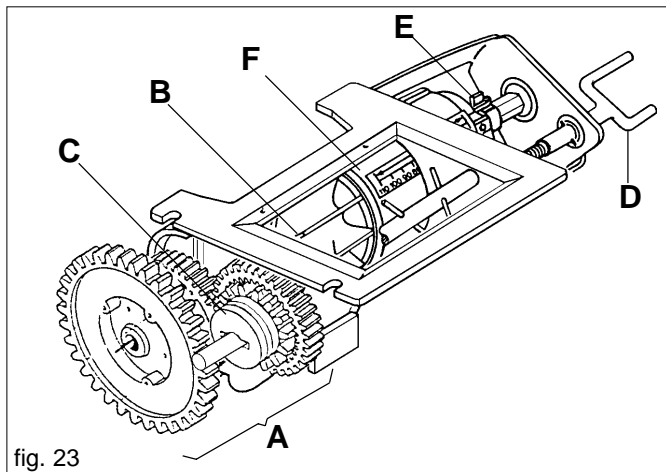
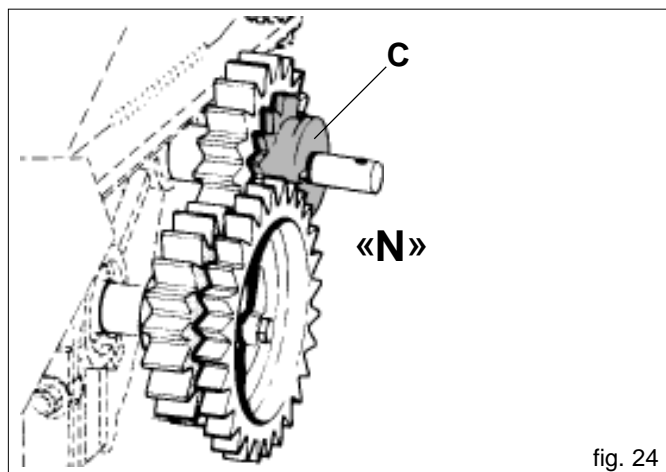
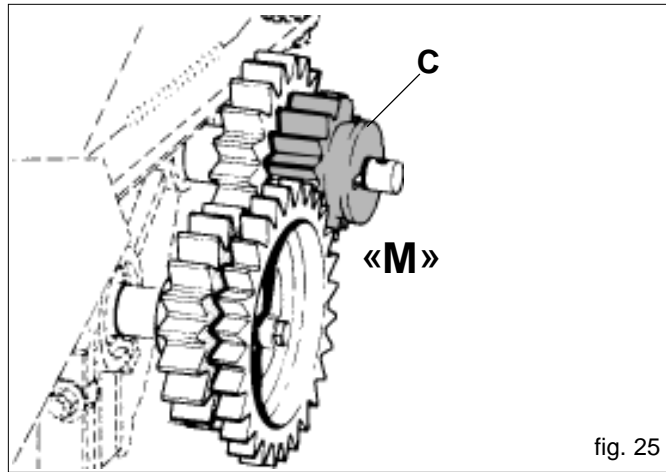
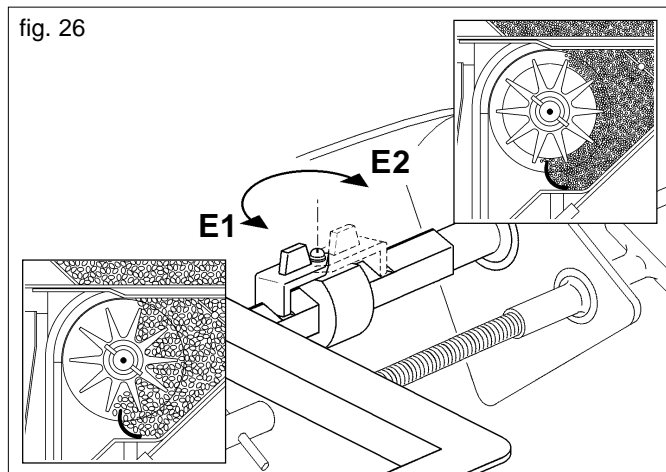

fig. 23
fig. 24
fig. 25
fig. 26
The doser (Fig.23) the most important part for seeder operation, is located underneath the seed hopper. Motive power is transmitted to it by the drive wheel through gears (with ratios proportional to the width of the work to be carried out) and chains. Thanks to a gearbox (A Fig. 23) it allows the distributor roller (B) to operate with two gear ratios, by changing the position of the red toothed wheel (C Fig. 24, 25). In position «N» (Fig. 24), the gear ratio is 1:1, as imposed by the pair of toothed wheels Z19; when the wheel (C) is shifted to the «M» (Fig. 25) position, the distributor wheel halves the number of revolutions, as the drive is then composed of the red drive wheel Z14 and the drawn wheel Z28. When a dosing test, as described in chapter 3.4.2, is performed, it may be observed that the quantity of product distributed is halved (see Table 5) compared to the test using ratio 1:1. The position «M» of the toothed wheel (C) is necessary for the distribution of small seeds and quantities.
The locking spring (E Fig. 23) enables the opening range of the gate to be modified which, in turn, modifies the capacity of the dosing roller at the same time. The position «E1» (Fig. 26) enables the gate to be opened on a graduated scale, ranging from 0 to 110, with maximum capacity of the dosing roller; in the «E2» position, on the other hand, there is a gate opening range of 0 to 25 and the capacity of the roller is reduced. It is important always to remember to close the gate completely (0 on the graduated scale) in order to invert the position of the locking spring (E).
The distributed seed quantity per hectare is adjusted by the seed distributor (Fig. 23) by moving the graduated slide valve accordingly (F) with the screw staff (D). The positions of the distributor scale (Fig. 28) correspond to the adjusting table values in the left column (Table 5 page 44).